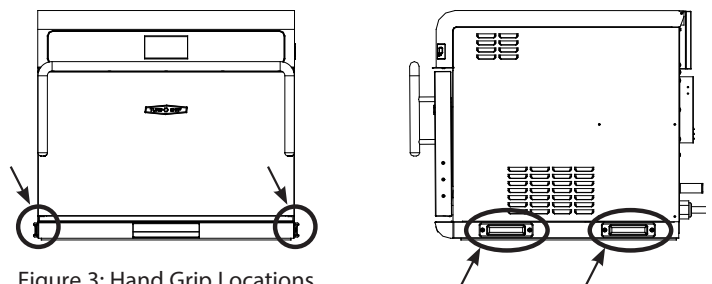

Figure 3: Hand Grip Locations
WARNING: Lift only by using the provided hand grips (Figure 3, below). Never lift the oven by the door handle. This may result in a non-warranty service claim.
3. Place hands into grips (see Figure 3) and lift.